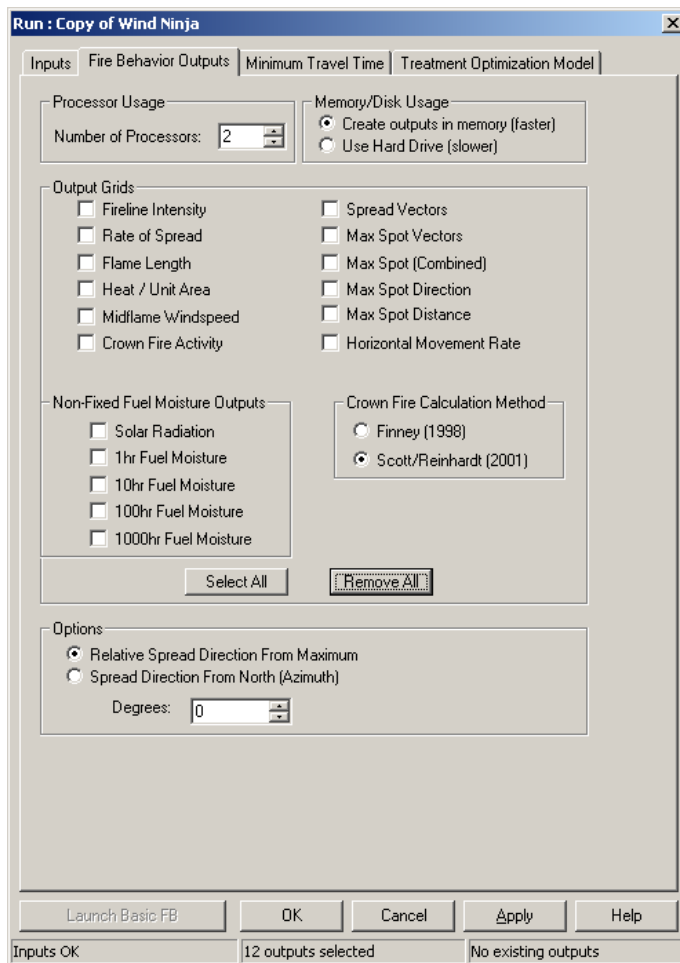

Figure 4-32—MTT single ignition fire behavior outputs options.
6) Select the **Fire Behavior Outputs** tab (see fig. 4-32).